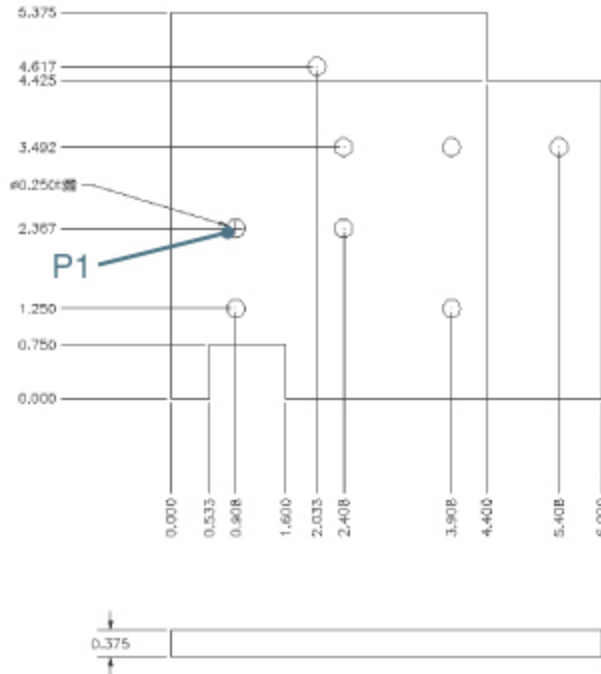

Figure 13-69
- 4** Start the **DIMDIAMETER** command, and select the circle shown at P1 in Figure 13-69. Place the dimension as shown. The new dimension has the settings of the override, and the existing dimensions remain unchanged.
- 5** Save your drawing. Your drawing should look like Figure 13-69.